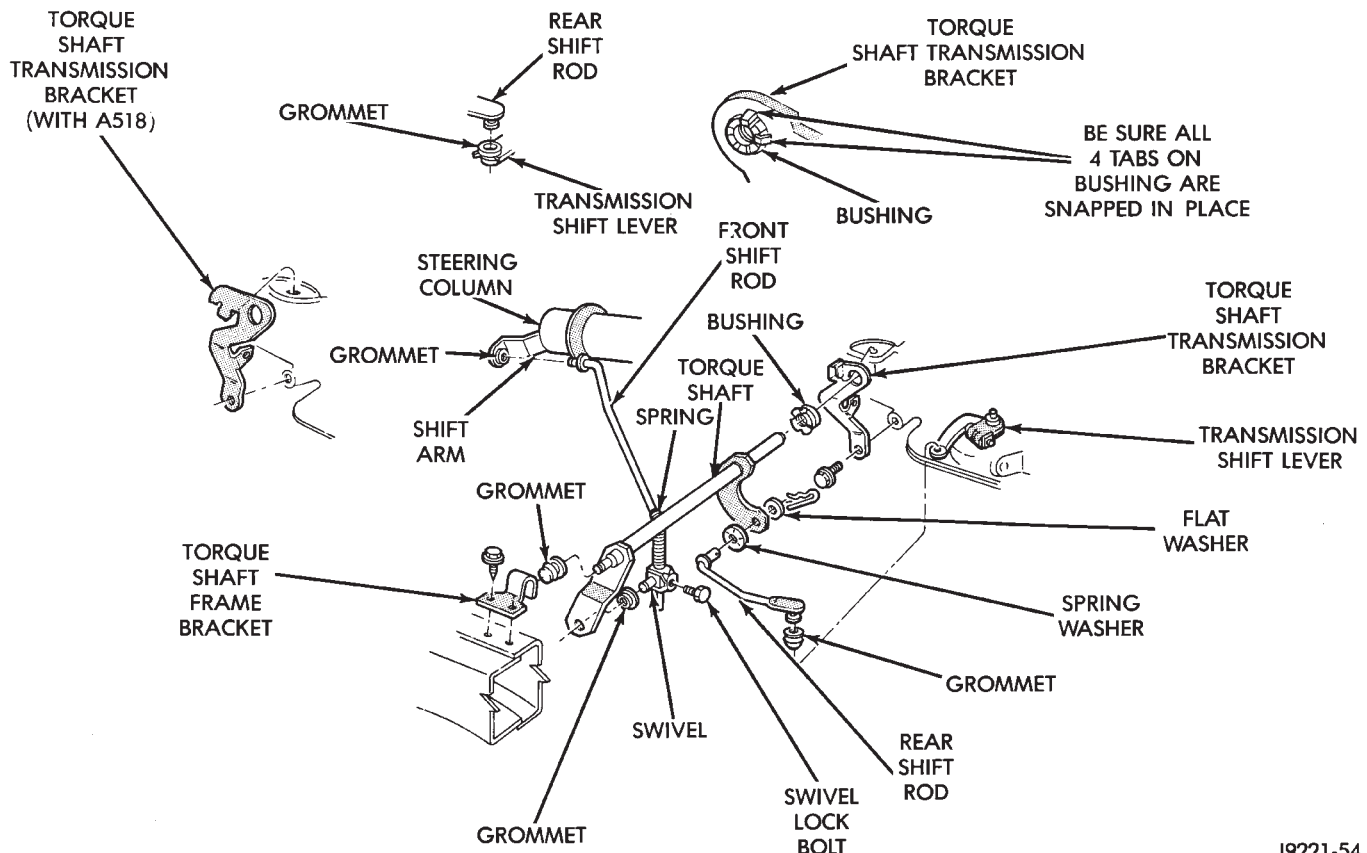

Fig. 2 Column Gearshift Linkage
- (1) Shift transmission into Park.
- (2) Raise vehicle.
- (3) Check condition of shift rods, control lever, bushings, washers and torque shaft (Fig. 2). Tighten, repair, or replace worn or damaged parts.
- (4) Loosen lock bolt in rear shift rod adjusting swivel (Fig. 2).
- (5) Slide adjusting swivel off torque shaft arm. Be sure swivel turns freely on rear shift rod.
- (6) Verify that valve body manual lever is in Park detent. Move transmission shift lever fully rearward to check.
- (7) Adjust swivel position on rear shift rod to obtain free pin fit in torque shaft lever (Fig. 2). Then tighten swivel lock bolt to 90 in. lbs. (10 N•m) torque.
- (8) Check adjustment by starting engine in Park and Neutral. Engine should start in these positions only. **If engine starts in any position other than Park or Neutral, adjustment is incorrect or park/neutral position switch is faulty.**